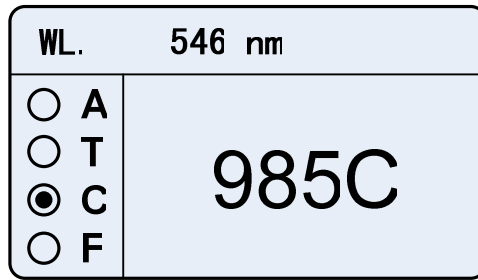

Fig. 4-8
- 5) Pull the unknown concentration sample in the light path, then its concentration displays on the screen. (Fig.4-8);